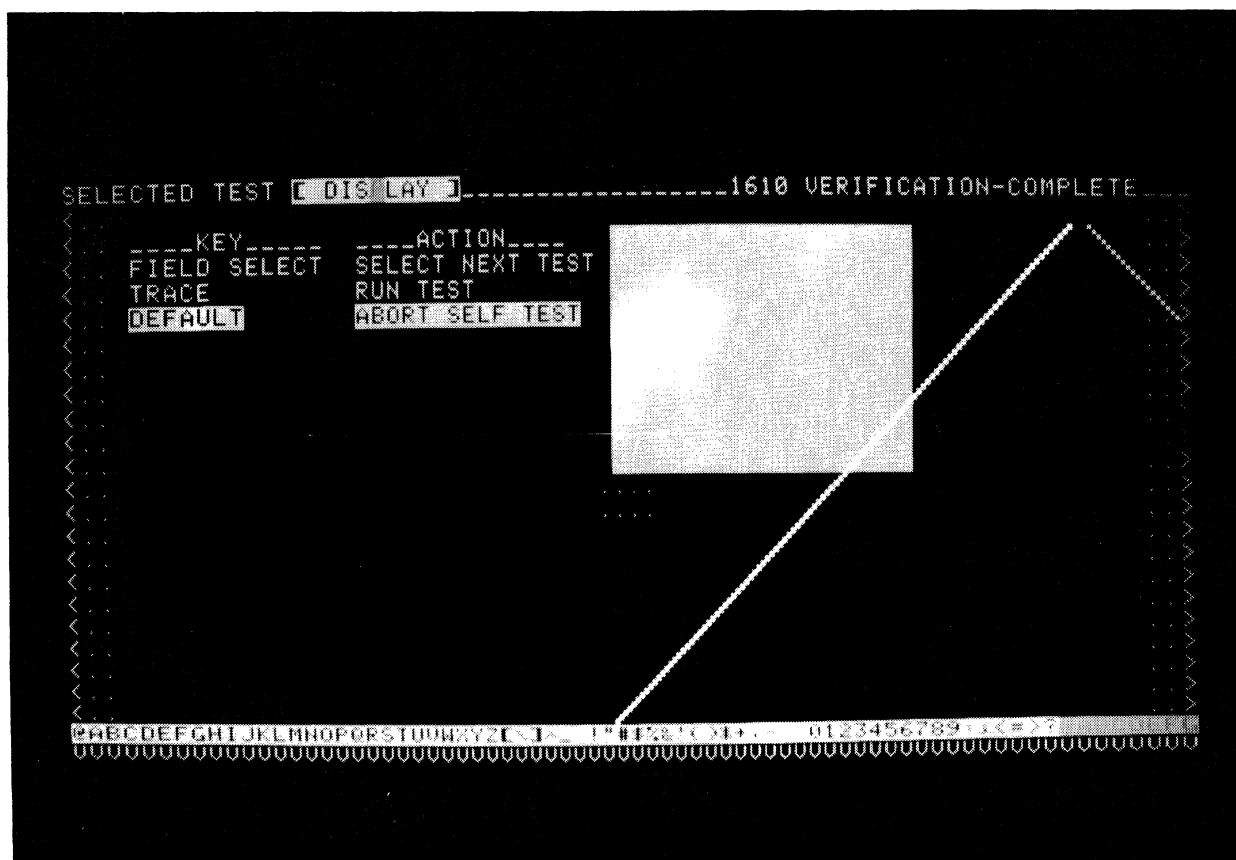

Figure 4-1. Display Test
- Verify that display is as shown in figure 4-1 with "1610 VERIFICATION-COMPLETE" message in upper-right corner.